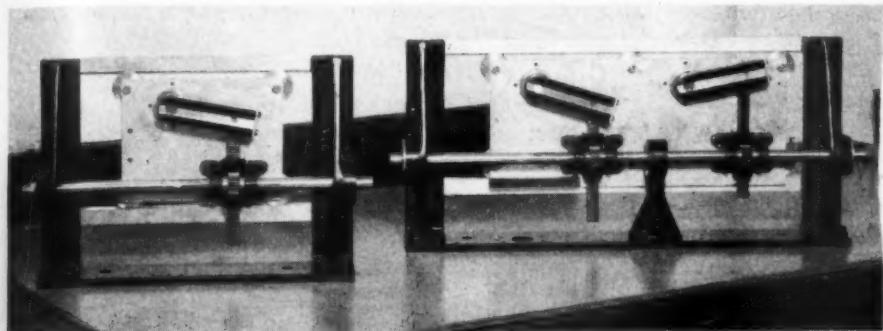

Fig. 13—Mechanical multiplier and its corresponding diagrammatic sketch and symbols
**MULTIPLIERS:** Starting again with mechanical solutions for multipliers, Fig. 13 shows details of a mechanical multiplier which is visible as part of the